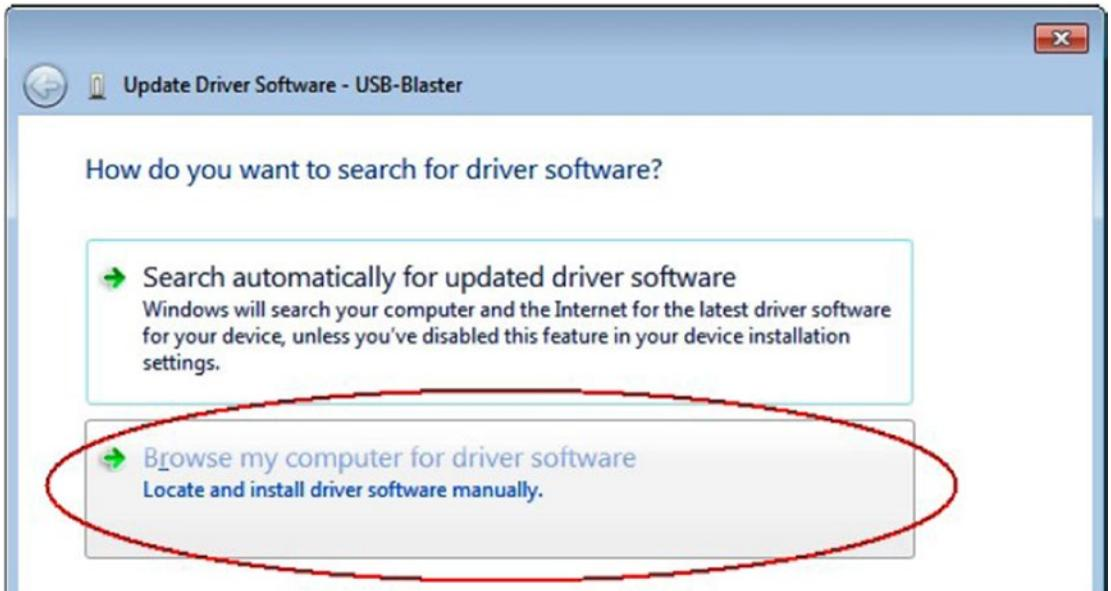

Figure 4-53. Device manager
3. Do not search automatically. Instead select **Browse my computer for driver software** (Figure 4-53).